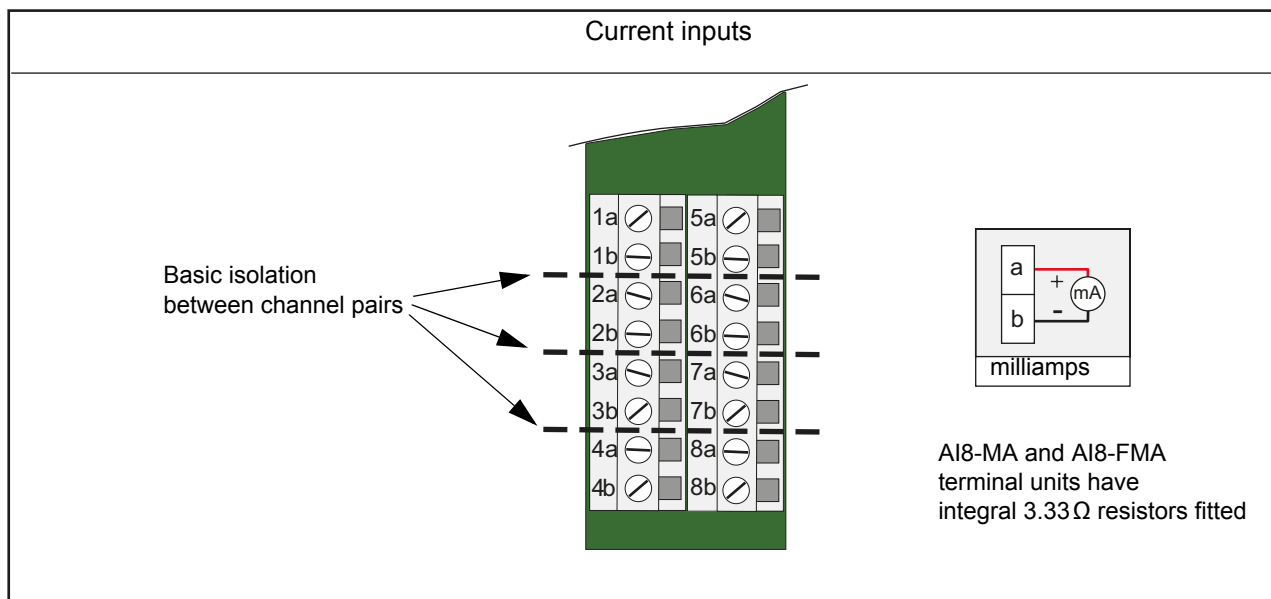

Figure 20: AI8-MA and AI8-FMA terminal units
- **AI8-MA** or **AI8-FMA**—eight isolated channels of current (mA) inputs, standard polling rate and fast polling rate, respectively. See Figure 20 for terminal pin-out details.